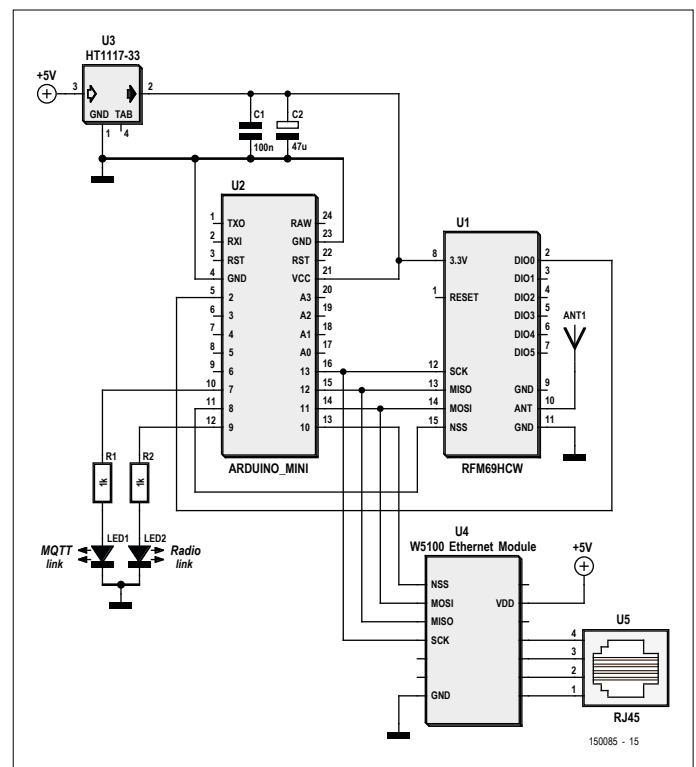

Figure 5. Schematic diagram of the gateway.
The gateway consists of an Arduino, an RFM69 module and an W5100 Ethernet module. **Figure 5** shows the schematic diagram. The gateway also uses an Arduino operating at 3.3 V. On the gateway the SPI bus is shared by the RFM69 and W5100 modules. The SCK, MOSI and MISO signals are connected to both devices in parallel. Different Slave Select (SS) signals are used to select the individual devices on the bus: pin 8 for the RFM69 and pin 10 for the Ethernet module.